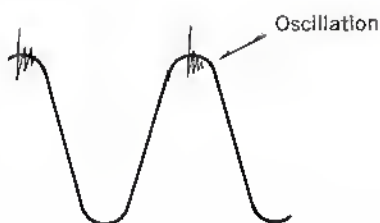

Fig. 52 Oscillated Wave-form at TP306 for Level Indicator Circuit Adjustment.
15. When the adjustment item 13 is completed and the oscillation as shown in Fig. 52 is obtained, adjust R370 to eliminate the oscillation. This adjustment, however, is a temporary one so that R370 must further be adjusted according to the output voltage of the video head, not to show the distortion caused by the overmodulation when recording, but with the deepest possible modulation.